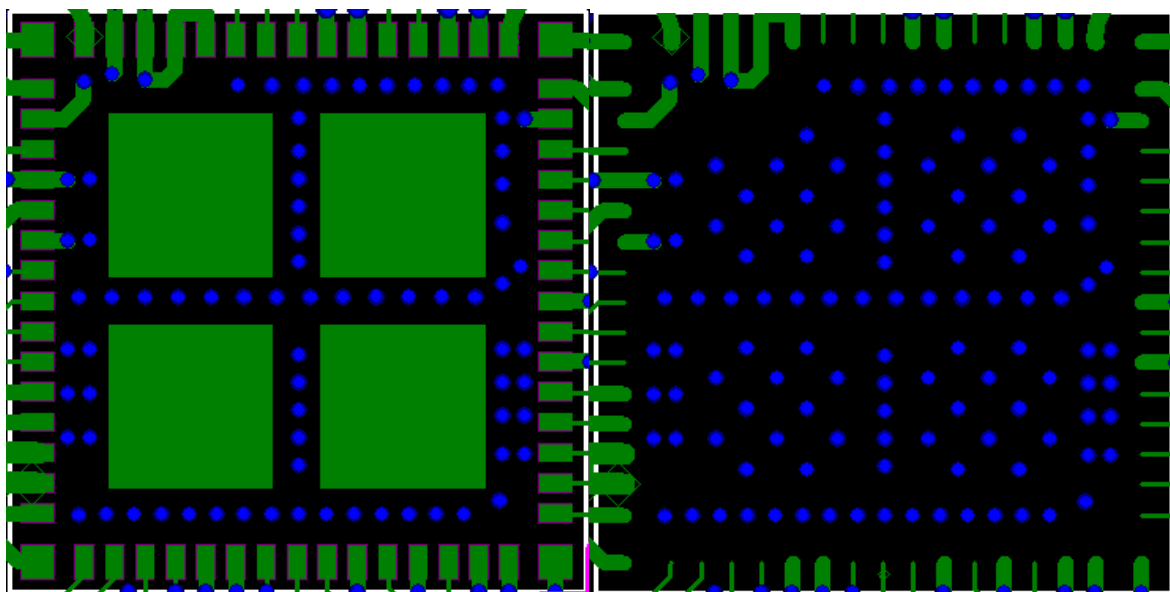

Figure 6-4. Block of Ground Pads on Bottom Side of Package
6.2.2 We recommends using one big ground pad under the module with vias all the way to connect the pad to all ground layers (see Figure 6-4).